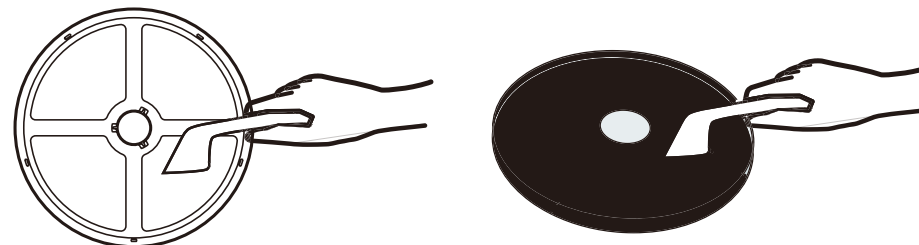

Fig.15
2. Separate the three parts (Exhaust Vent Shroud, Lint Filter and Exhaust Filter) and use a soft brush or vacuum cleaner, to carefully clean any lint off the Lint Filter and Exhaust Filter, as illustrated below (Fig. 15).